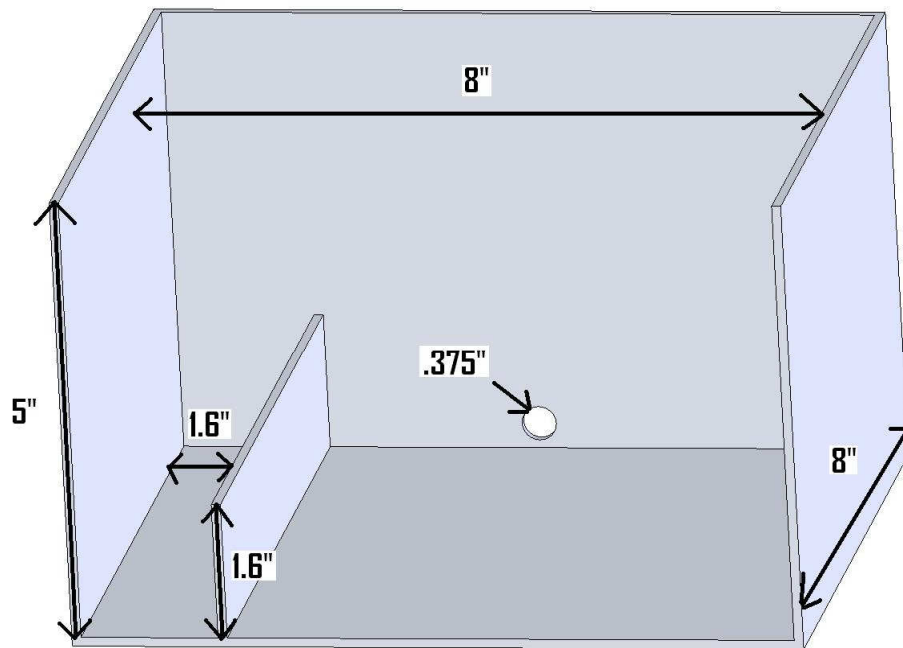

FIGURE 1-2
4. Construct baffling for the filter pick area. This is key for pump performance and longevity. Typical baffling size is 8x8x5. Use **figure 1-2** for reference.